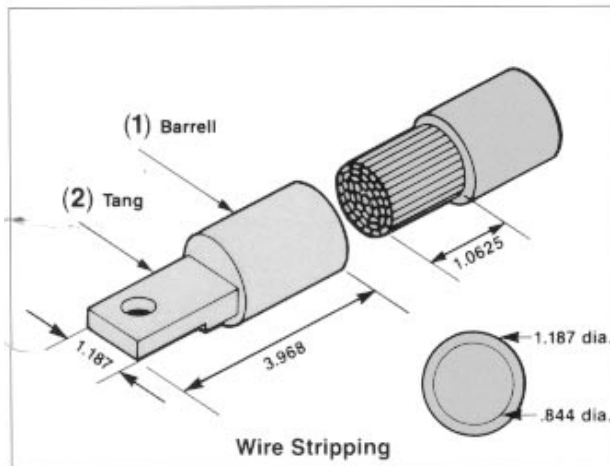

Figure 1
- Preform cables to final configuration and strip insulation back 11/6 in. on each conductor. Use an appropriate insulation stripping tool to avoid damaging the conductor. (See Figure 1.)
- Remove cap from compression connector and insert cable fully into barrel (1) (Figure 1) of connector
- Insure that connector tang(s) (2) (Figure 1) are in their proper orientation prior to crimping. This helps avoid twisting of cables during installation.